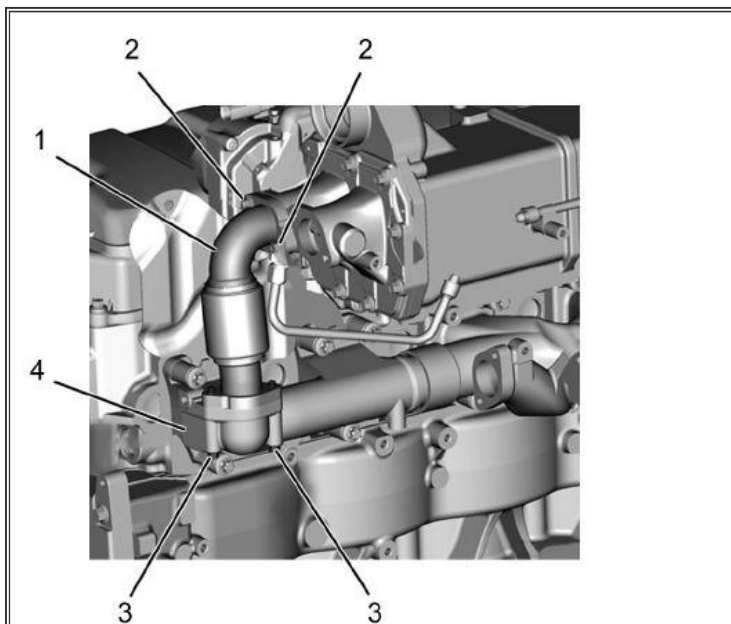

Figure 3: Inboard EGR Inlet Tube
9. Remove inboard EGR inlet tube and two tube gaskets (**Figure 3**, Item 1). Discard gaskets and bolts (**Figure 3**, Items 2 & 3)